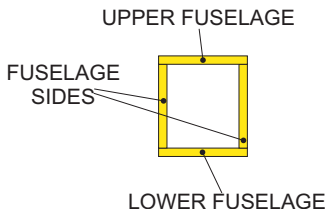

Figure 3
- G Attach the fuselage sides to the lower fuselage (see Figure 3) - they fit on top of the lower fuselage, to give the correct fuselage width.